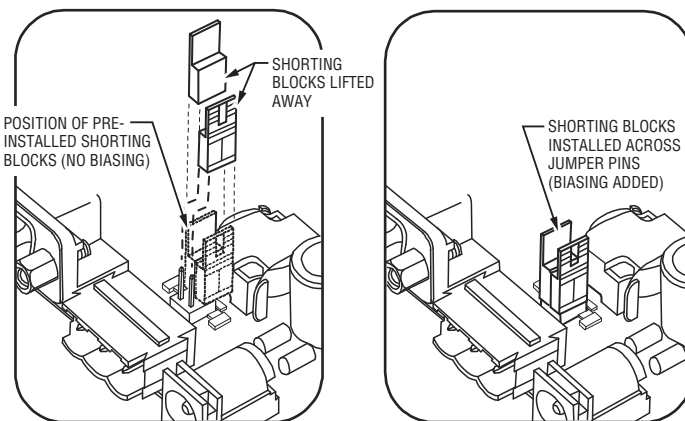

Fig. 8. Install shorting blocks across both sides of jumper block to add RS-485 bias.
1. Locate the four jumper pins behind the RS-485 port, with 2-pin shorting blocks installed on one pin each. See Fig. 8.
2. To add biasing, remove and replace both shorting blocks back onto the jumper pins, as shown in Fig. 8 (right).